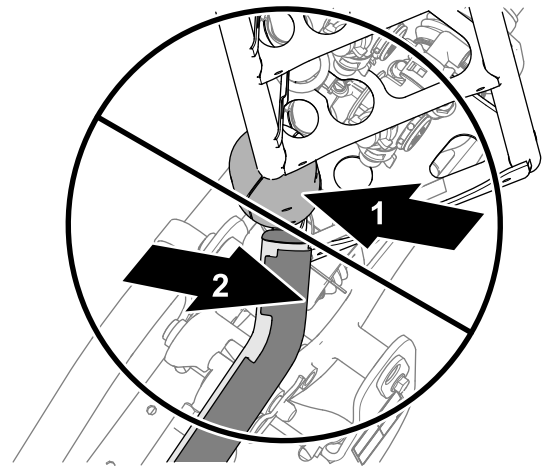
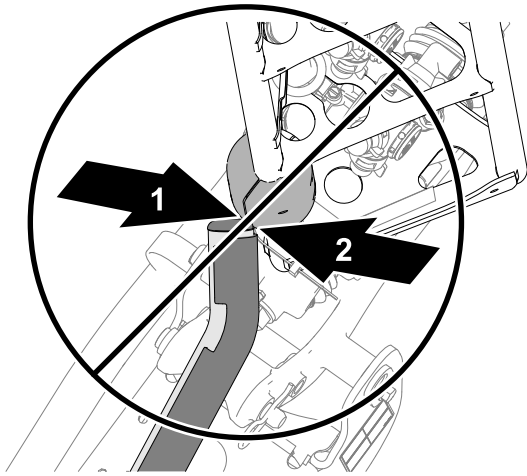
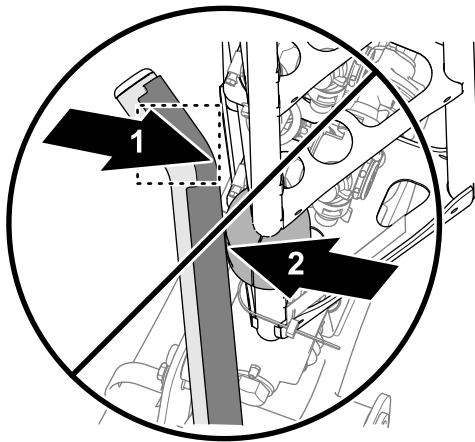

Figure 7
Figure 8
Figure 9
5. If either upper cradle tube is misaligned with the slide block as shown in Figure 7, Figure 8, or Figure 9, adjust the cradle position; refer to Aligning the Cradles to the Outer Booms \(page 77\).